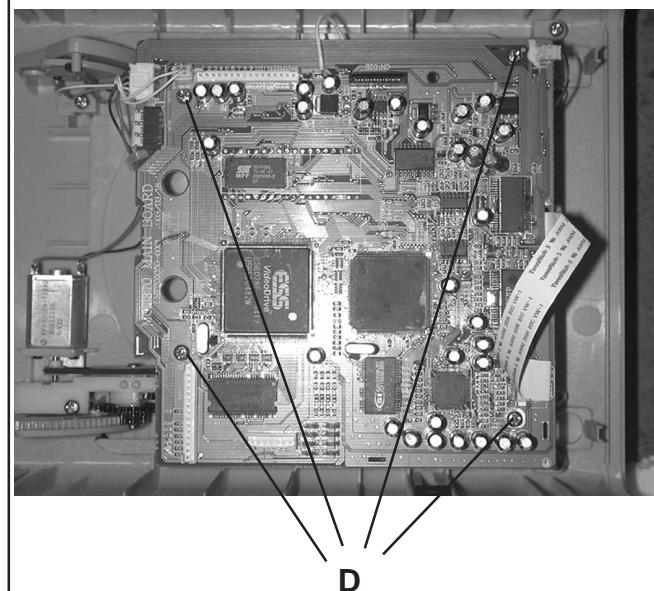

Figure 4
- 2) Loosen 4 screws " D" to remove the Servo Board from the top cover as shown in Figure 4.